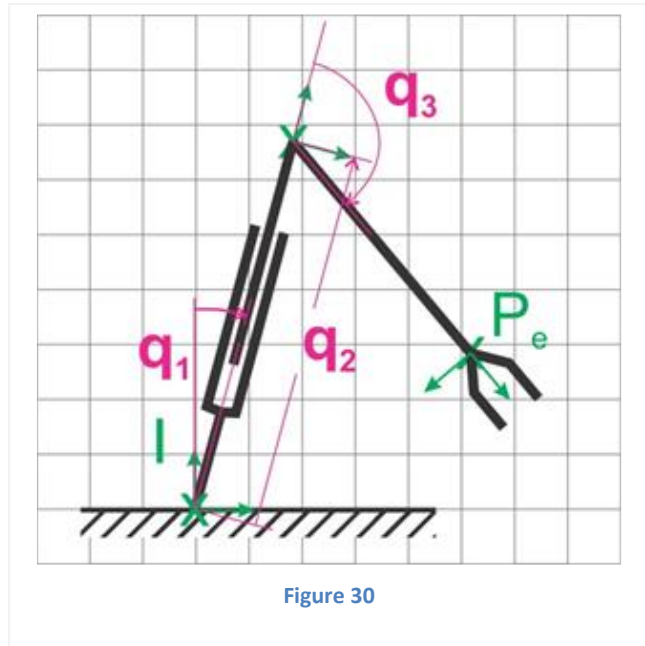

Figure 30
- (a) Which one of the following matrices does represent the constraint Jacobian  $\mathbf{J}_f = \frac{\partial f}{\partial \mathbf{q}}$  for the system shown in Figure 30? We are only considering the position and orientation of the end effector  $P_e$ . That is, the Cartesian coordinates are  $\mathbf{x} = [x_e \ y_e \ \gamma_e]^T = f_c(\mathbf{q})$ . All units are meters, the gridlines are spaced at 1m, and all angles are assumed to be positive in a counter clockwise direction (i.e.,  $q_1$  and  $q_3$  have negative values).